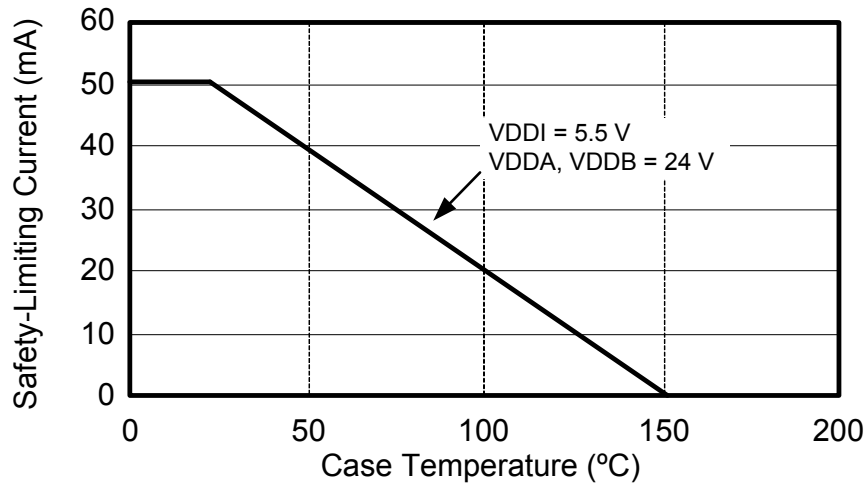

Figure 6. WB SOIC-16, NB SOIC-16, 14 LD LGA Thermal Derating Curve, Dependence of Safety Limiting Values with Case Temperature per DIN EN 60747-5-2
1. Maximum value allowed in the event of a failure. Refer to the thermal derating curve in Figures 6 and 7.